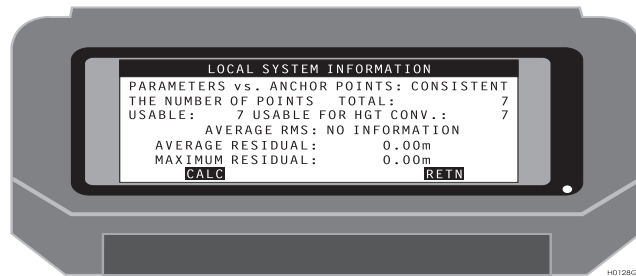

Figure 2.46. Local System Information Screen
11. To display the calculation parameters for the current definition list, use the Local System Information screen (Figure 2.46).